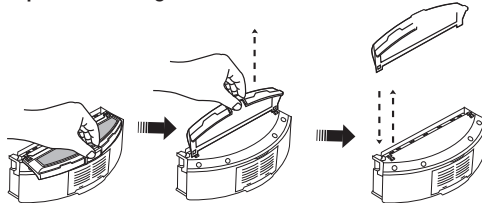

Fig.2
3. To remove unplug the the right and left fasteners of the velcro mop base on the dust filter bracket (refer Fig.2).